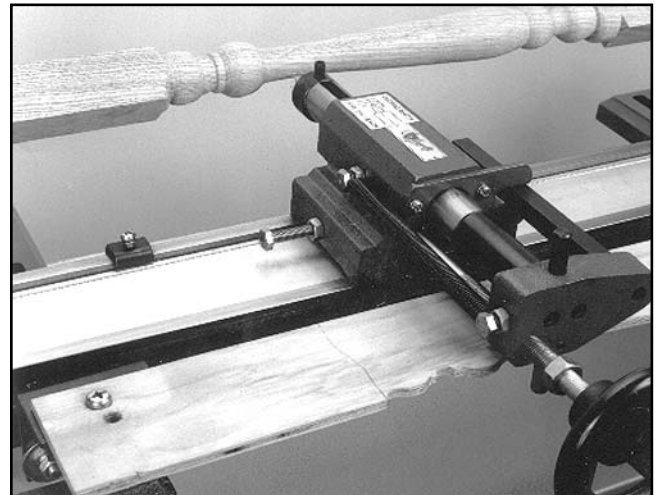

Figure 15. Shaping the copy spindle.
15. Continue removing stock until the workpiece is complete. **See Figure 15.**